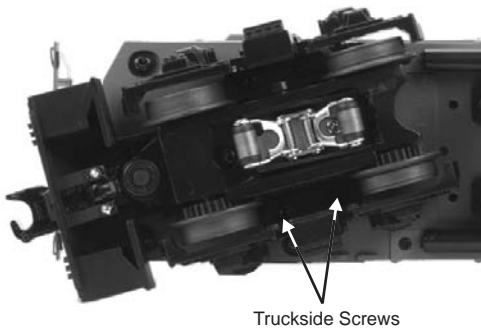

Figure 6: Truckside Screws
2. Once the cab is removed, remove the trucks by unscrewing the black Phillips motor mount screw located on the underside of the drive trucks (fig. 6).